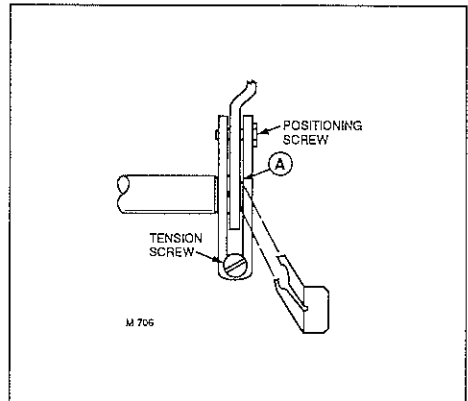

Fig. 2—Insertion of clip through slot in crank arm.
2. Insert the clip at A between the two pieces of the crank arm (Fig. 2). The positioning screw must be loose to give clearance.